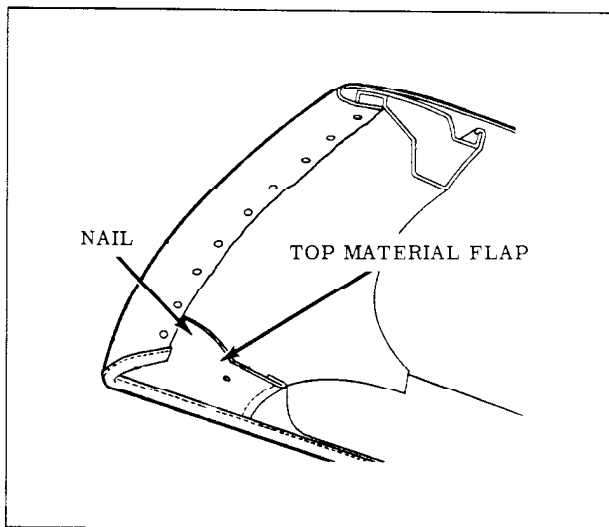

Fig. 15-84 Top Material Attachment to Roof Rail
4. Loosen front end of each side roof rail front weatherstrip sufficiently to detach top material flaps which are nailed and cemented to rails. (Fig. 15-84)